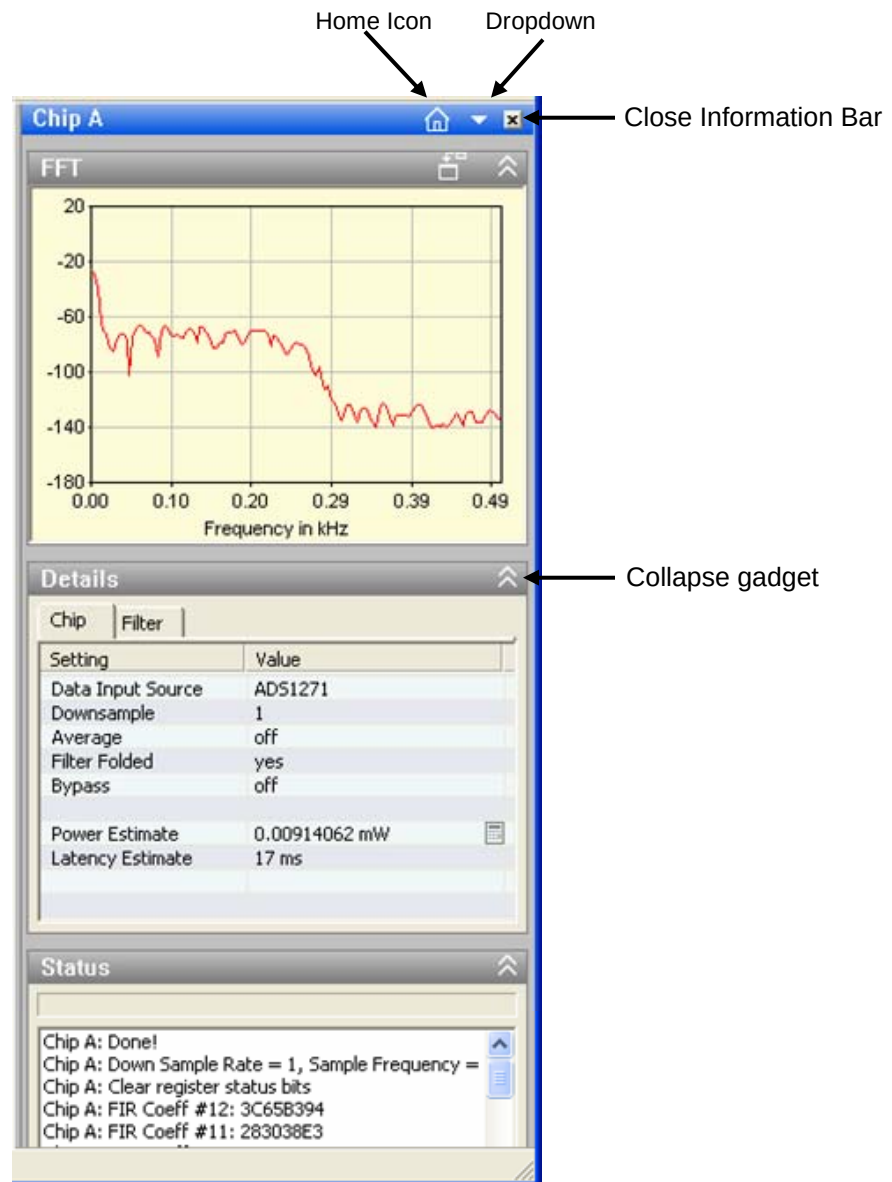

Figure 19
- Clicking on the Home icon (Figure 19)
- Use the drop down at the top of the active panel (Figure 19)